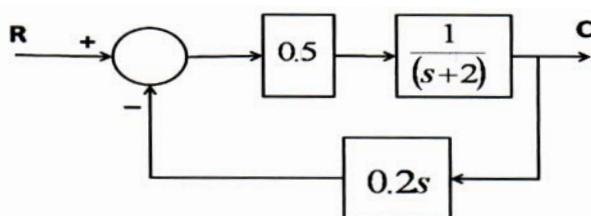

Figure 1
- b) From the block diagram in Figure 1, determine the transfer function: C/R.[4]